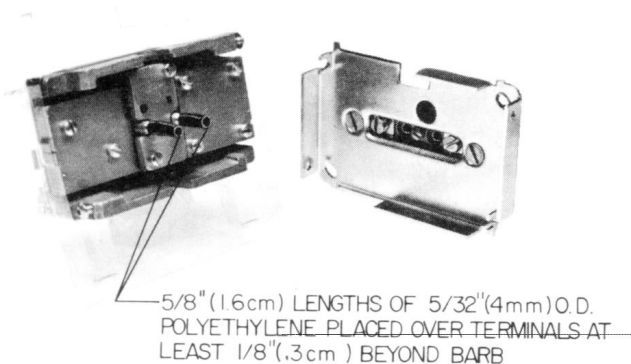

Fig. 5
1. If the existing instrument is plugged into a T-4000 style pipehead, to adapt the new instrument for plug-in, cut one 5/8 in. length of 5/32 in. O.D. polyethylene tubing for each new instrument terminal and slide it over each terminal at least 1/8 in. beyond the barb. The new instrument can then be plugged back into the existing T-4000 style pipehead, see Fig. 5.